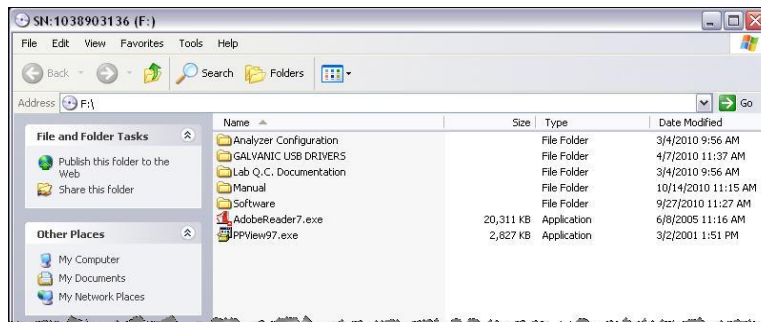

Figure 3-5: CD Contents
- Insert the compact disk that was included with the system into the CD ROM drive of the personal computer. Use Windows Explorer to view the contents of the CD (Figure 3-5).